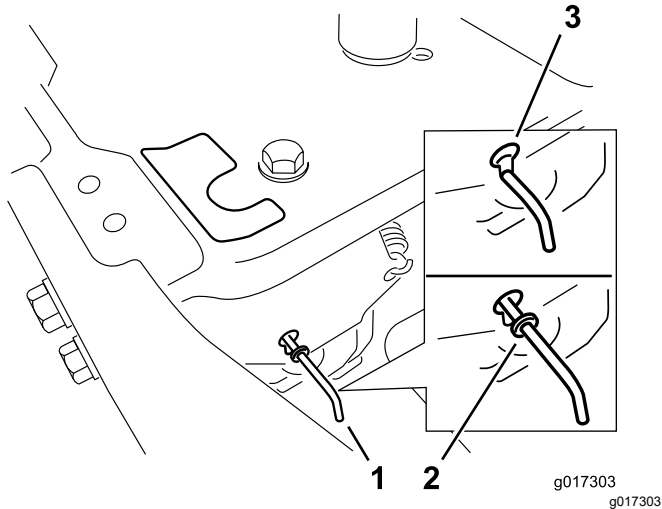

Figure 26
4. Move the bypass levers forward through the key hole and down to lock them in place (Figure 26).
Move the bypass levers rearward through the keyhole and down to lock them in place as shown in Figure 26.